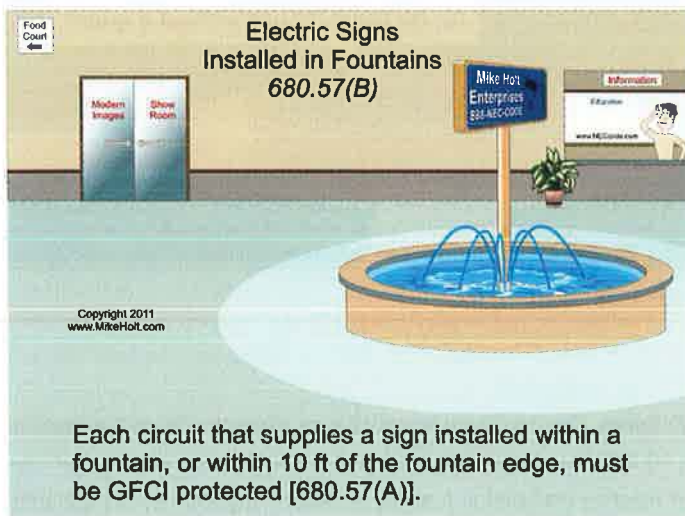

Figure 680-47
(B) GFCI Protection of Sign Equipment. Each circuit that supplies a sign installed within a fountain, or within 10 ft of the fountain edge, must be GFCI protected [680.57(A)]. **Figure 680-47**